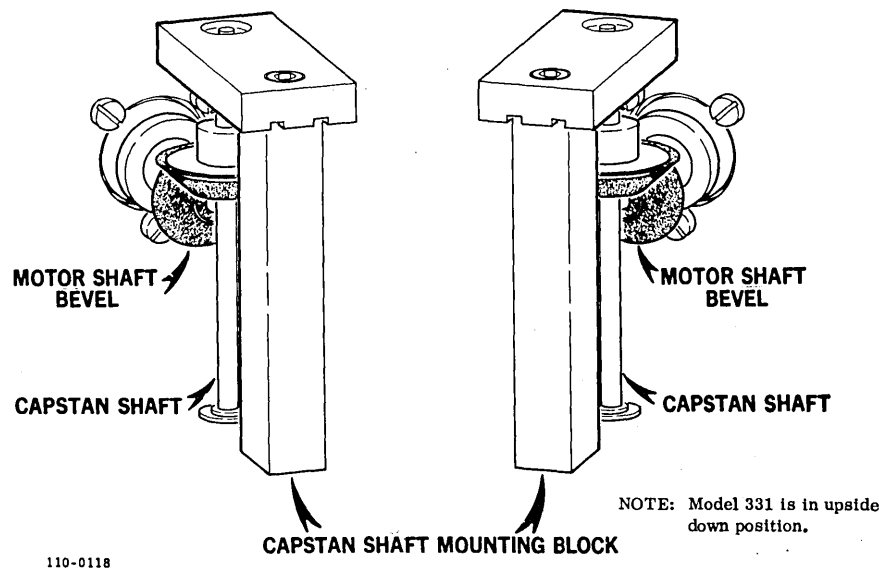

Figure 4-2. Motor Shaft Bevel Centering
stan bevel gear before the capstan motor mounting screws are tightened. Figure 4-2 illustrates bevel gear centering.
2. From the front of the machine, sight down both edges of the capstan shaft mounting block, lining them up with the edges of the capstan shaft. (See Figure 4-2.) Note the amount of motor shaft bevel gear visible from both sighting positions.
3. Adjust motor position until the same amount of motor shaft bevel is visible from both sighting positions. (See Figure 4-2.) Then tighten the capstan motor mounting screws.